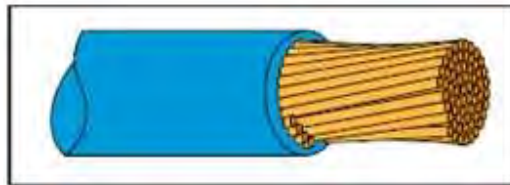

Figure 57
- (1) Broken, nicked, or cut strands as listed below and shown in Figure 57.